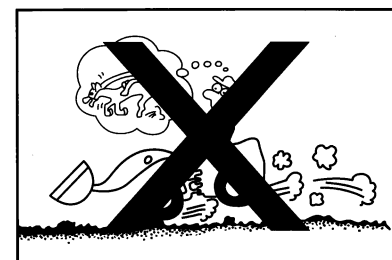

Figure1-60
- When working on a snowy ground, reduce the loading volume and take notices to skidding. (Figure 1-60)